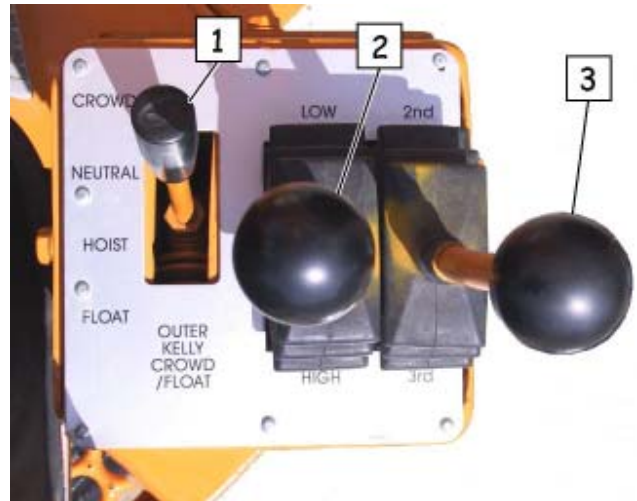

Fig. 3-7 Outer Kelly and Gear Selectors
The outer kelly bar is raised and lowered by applying oil to the crowd cylinder. The motion of the cylinder is transmitted to the kelly via wire rope and sheaves. For normal hoisting and lowering into the hole the outer kelly bar is controlled by the outer kelly crowd/float control (item 1, fig. 3-7). This lever is located to the right of the operator. Pushing the control lever away from the operator to the CROWD position lowers the outer kelly bar. Pulling the lever toward the operator to the HOIST position raises the outer kelly bar. The lever is spring returned to the neutral position.